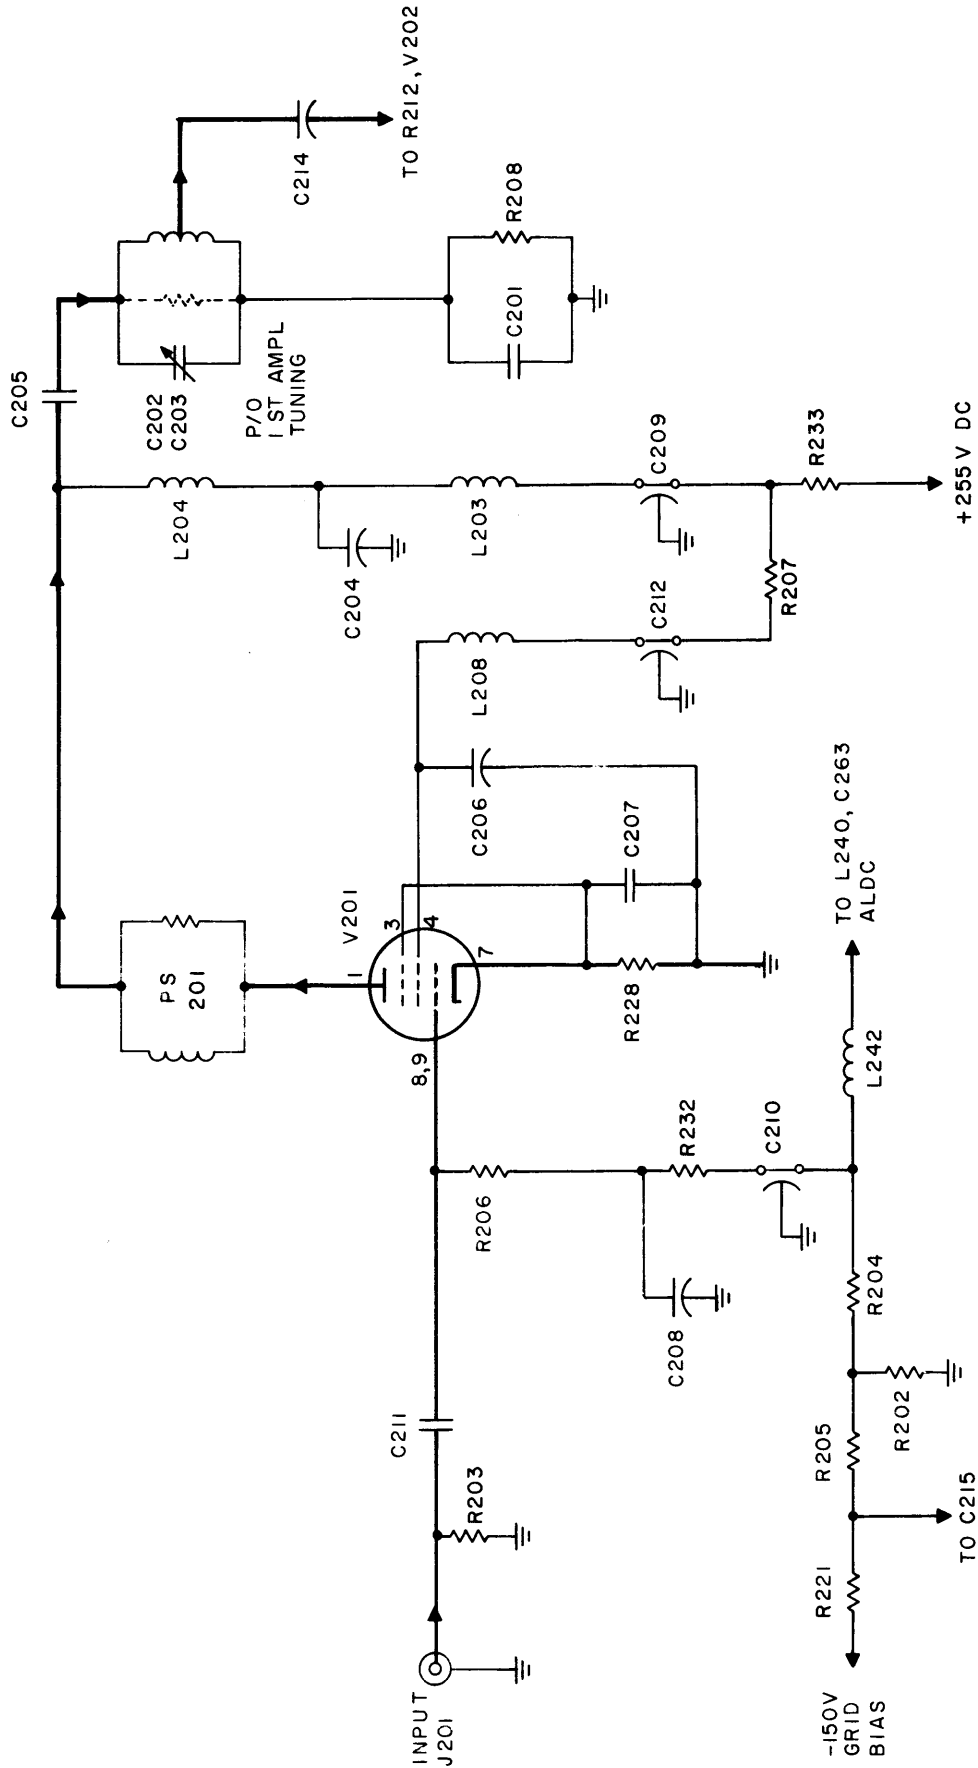

Figure 4-2. Simplified Schematic, 1st Amplifier Stage V201, RFD
a. 1ST AMPLIFIER, V201. (See figure 4-2.) - Tube 5763 is operated as a class A amplifier. The tuned plate circuit of V201 is varied by the front panel control, 1ST AMPL TUNING. This stage requires an input power of approximately 100 mw to drive stages V202 and V203 to full power output.